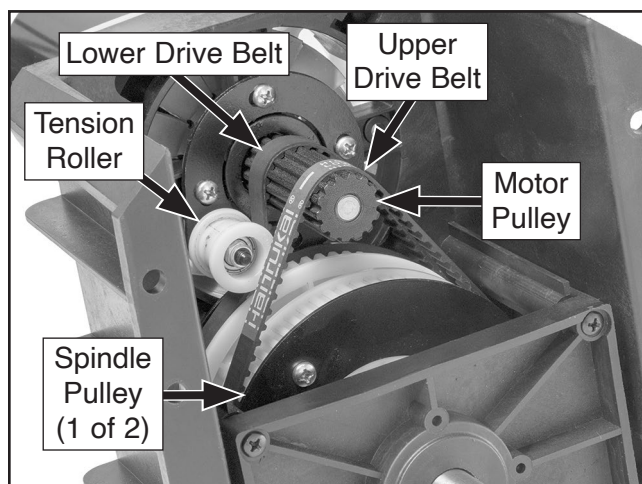

Figure 48. Drive belts positioned correctly around pulleys and tension roller.
10. Position new drive belts around pulleys as shown in **Figure 48**.
Note: Lower drive belt must route around inside of tension roller, as shown in **Figure 48**.
11. Install screws removed in **Step 7** to secure spindle assembly. Ensure pulleys and drive belts turn freely before proceeding (see **Figure 48**).